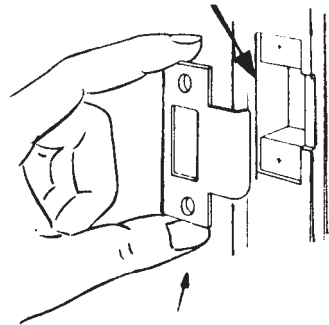

Figure 19.51 Electrified key-in-knob lock installation, Step 8.
8. Install the strike by making a shallow mortise in the door jamb to align with the latch face and install the strike as in Fig. 19.51.